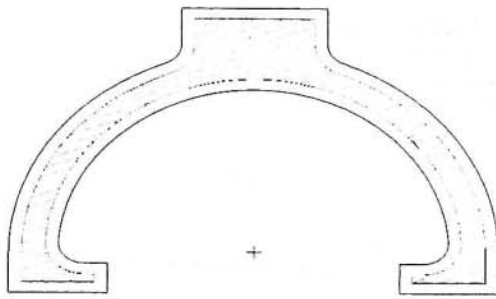

Figure 7.24 Zigzag mode
- **Zigzag Mode** This mode generates a set of back and forth linear toolpaths in the specified orientation to rough the pocket (refer to Figure 7.24).